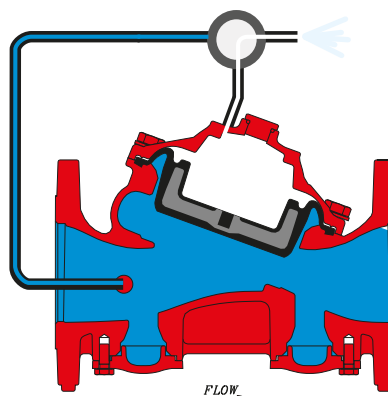

Fig 1b: Valve Open
In the open position (Fig 1b): Pressure is released from the control chamber by way of the operating valve (3), which can be activated either electrically, hydraulically, pneumatically or manually. With no pressure in the control chamber the seal disc will open and allow an unrestricted water flow through the valve into the system piping.